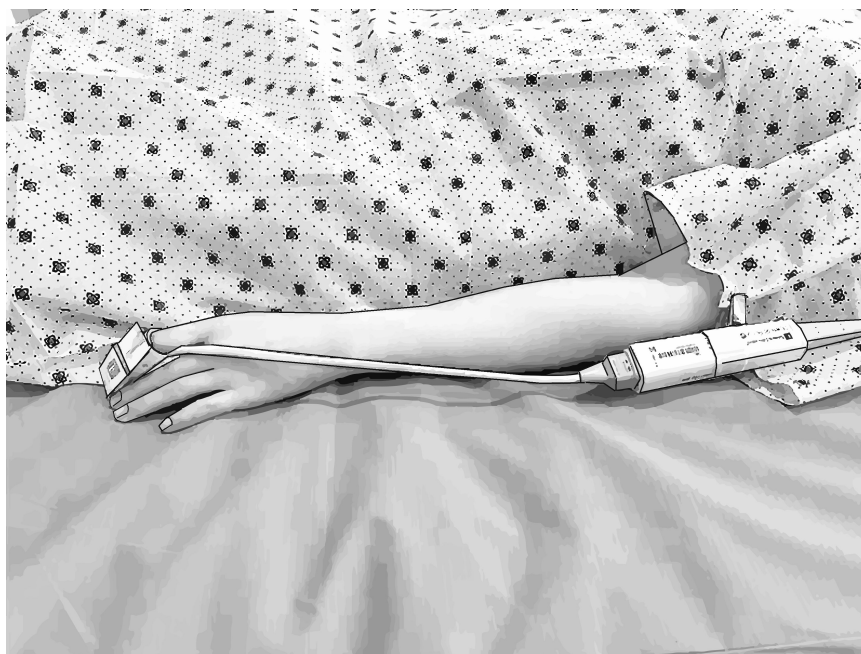

Figure 9-5: Smart pressure controller clip(s)
2. Use the Smart pressure controller cable clip(s) to place the Smart pressure controller near the patient's forearm. See Figure 9-5 on page 106 (preferred location).